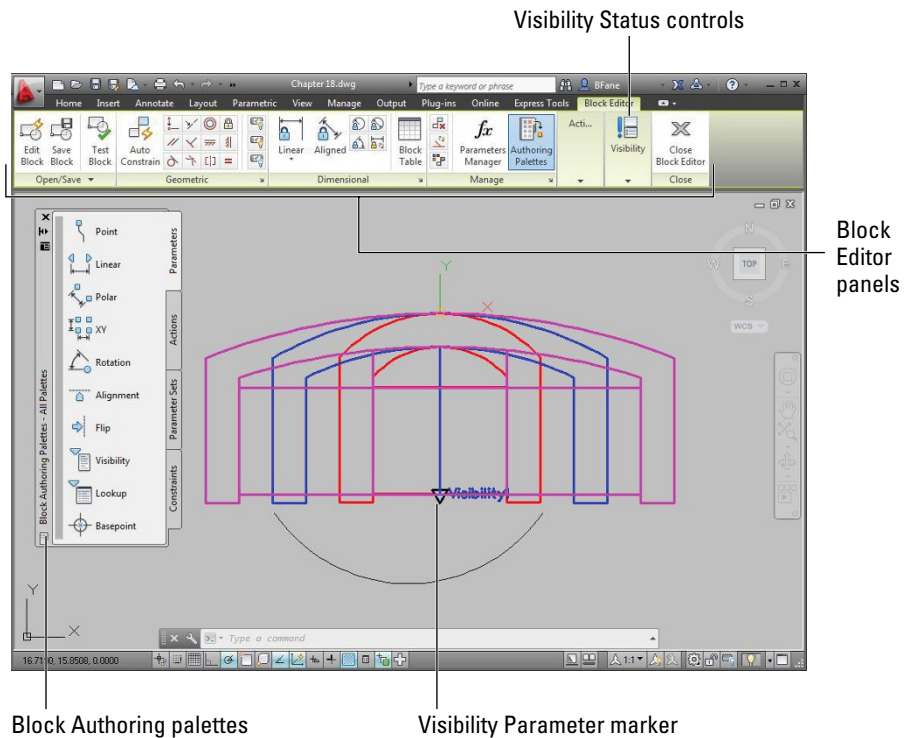

FIGURE 18-9:
The Block Editor tab's Geometric, Dimensional, and Manage panels (see Figure 18-9) are elements of the AutoCAD parametric drawing feature. AutoCAD LT doesn't fully support parametric drawing, so the LT Block Editor lacks the Geometric and Dimensional panels and gets a miniversion of the Manage panel. In this book, I don't have room to cover parametric constraints in dynamic blocks, but I do cover parametric drafting in Chapter 19. The concepts are pretty similar to adding parametric features to dynamic blocks.
At this point, your drawing screen may look pretty strange (see Figure 18-9). Don't worry; you're going to fix it in the next steps.
- 7. Click the Parameters tab of the Block Authoring Palettes and then click Visibility, as shown in Figure 18-9.**
AutoCAD places a parameter marker at the selected point and returns to the command line. As shown in Figure 18-9, the label `Visibility1` appears next to the Visibility Parameter marker, and a yellow Alert symbol indicates that no action has been assigned to the parameter yet. The controls on the Ribbon's Visibility panel become active.